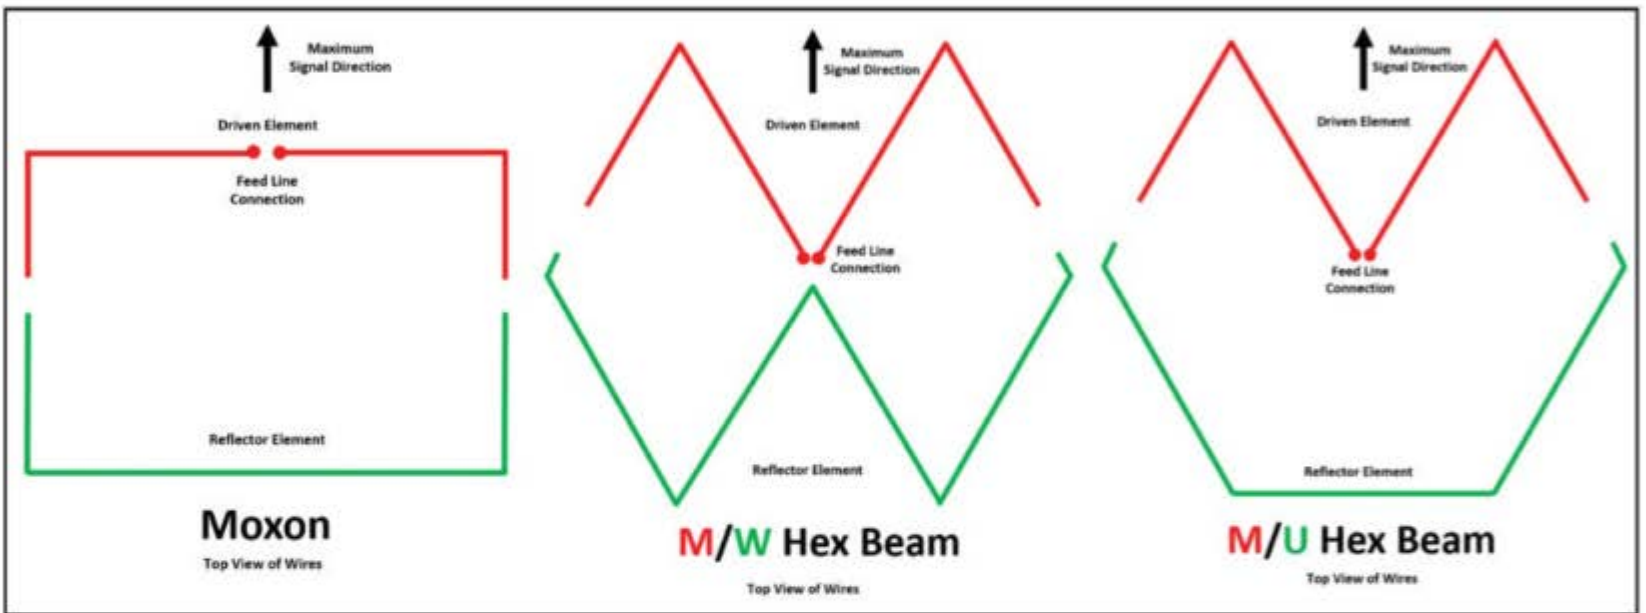
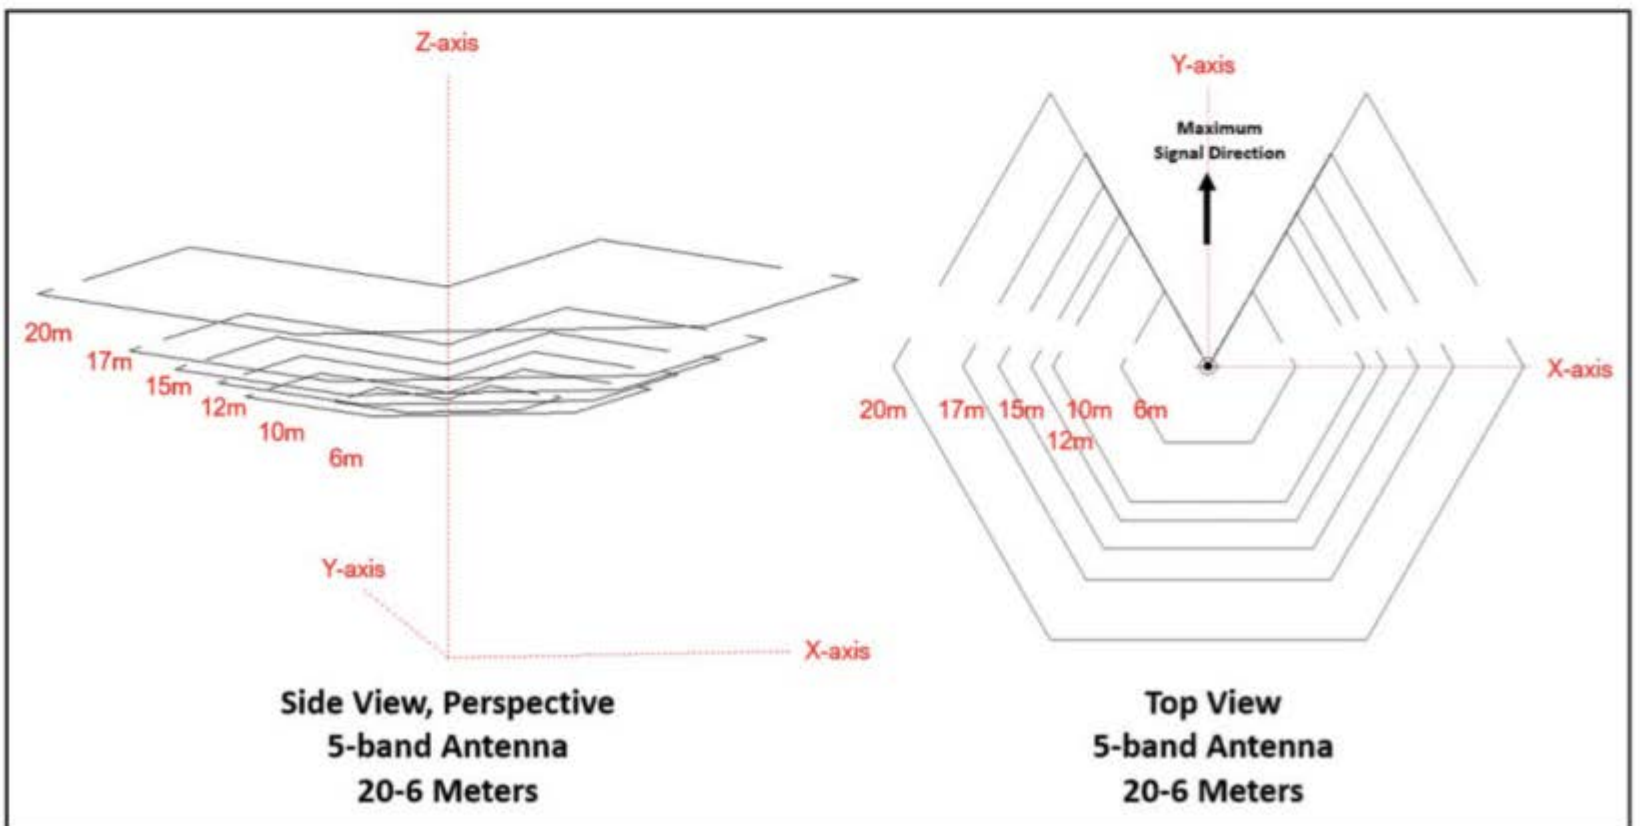

Figure 1. Moxon and hex beam wire configurations. (Illustrations by K5PA, except as noted)
Figure 2. Six-band hex beam showing nested wires (top view).
Amateurs have a long history of antenna experimentation, design, and development. Today, we stand on the shoulders of many giants in the field of antenna development. Many decades ago, Les Moxon, G6XN (SK), started bending antenna elements and developed what we now know as the Moxon Antenna.¹ Figure 1(a) shows how a 2-element beam consisting of a driven element and reflector has the end bent at right angles, enabling a smaller antenna size and turning radius. The resulting gain and front-to-back ratio for the radiated signal do not significantly change.
In the early 1990s, while dreaming of a snowflake, Mike Traffie, N1HXA, took the idea of creating a new antenna to the next level when he designed the multiband hex beam antenna for 10-20 meters and began to market his HEX-BEAM®.² Figure 1(b) shows the Traffie wire configuration where the driven element and reflector are bent into the shape of an M and W, what we call an M over W (M/W) configuration. Many were skeptical of the notion that you could nest multiple band elements over each other without severely affecting the overall performance. One such skeptic included a great mentor of the author, the renowned L.B. Cebik, W4RNL (SK), who made this remark during a telephone conversation.³
Traffie sold his HEX-BEAM® for over a decade and then decided to retire. Others were encouraged to try and improve on the initial design. Steve Hunt, G3TXQ (SK), published an article on the Broadband Hexbeam, and a new iteration, shown in Figure 1(c), was born that gave a similar gain as the original HEX-BEAM® but with greater bandwidth. This Broadband Hexbeam configuration has the driven element and reflector bent into the shape of an M and U, respectively, what we call an M over U (M/U) configuration. It became the gold standard for a new generation of hex beams that were available commercially at far less cost than the original due to less expensive support arms
For simplicity, each of the antennas shown in *Figure 1* is for a single band. When multiple bands are needed, each of the individual antennas are “nested” together, as shown in *Figure 2* (the M/U configuration). These views of the six antennas show the concentric antennas from the side and top views that are separated in the vertical plane to reduce interaction. Also, all antennas are connected to the same coaxial feedline shown at the center (tiny dot with circle) of the configuration. This figure is from the EZNEC model of the antenna. The large arrow shows the direction of maximum radiation.
EZNEC+ v6.0.33 with AutoEZ v.2.0.25 modeling software was used to characterize the beam patterns and impedance matching for the hex beam.^{8,9} The nested elements of the G3TXQ Broadband Hexbeam antenna, whose wire model was shown previously in *Figure 2*, was adapted to the VHQ HEX beam configuration by adding the 6-meter element and running beam patterns and VSWR curves across all bands (including 2-meters). This EZNEC / AutoEZ antenna